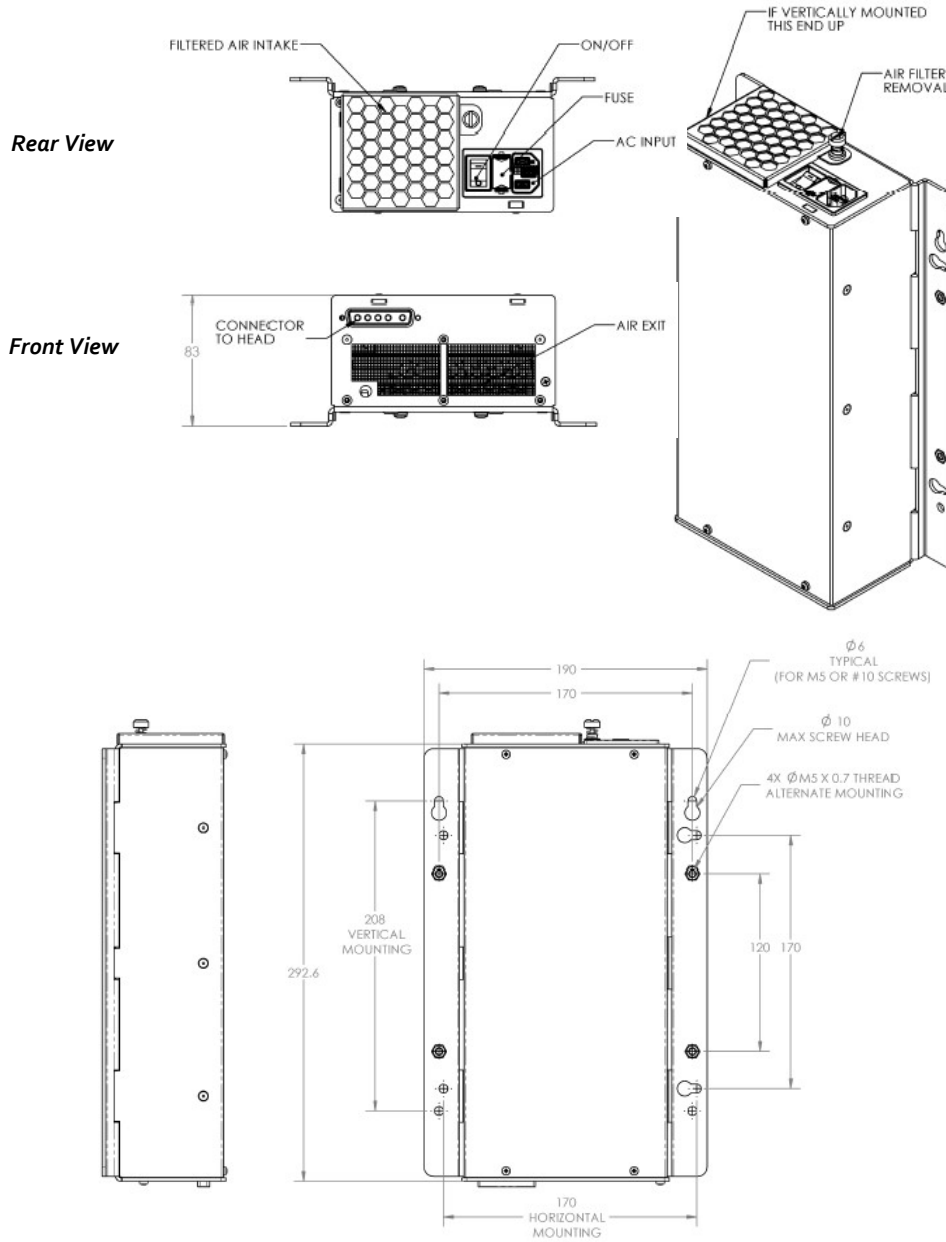

Figure 1 SC0650 Unit
1. Ensure that the power switch on the rear of the System Controller is set to the “off” position (see Figure 1).
To install the System Controller (refer to Figure 1):
10. Select an appropriate fastener type and identify the correct fastener spacing from figure 1.
- ensure that the mounting surface has holes spaced as per figure 1 through which M5 x0.7 fasteners can be threaded (preferred option) or inserted and bolted on the reverse side of the mounting surface.